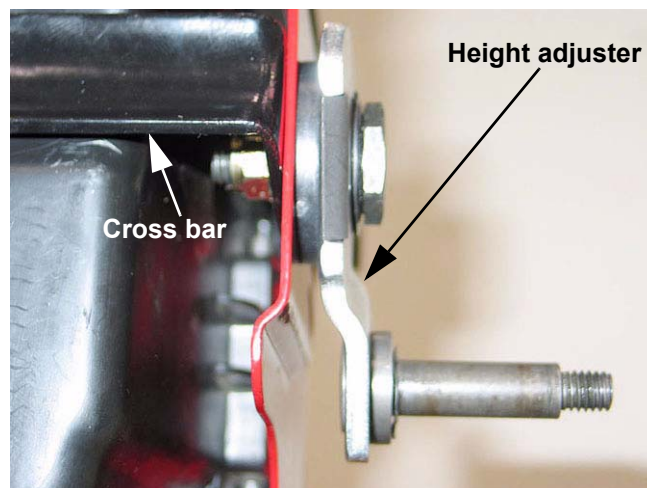

Figure 4.6
- 4.6. Using a 15/16" wrench and a 9/16" wrench remove height adjusters and cross bar. See Figure 4.6.